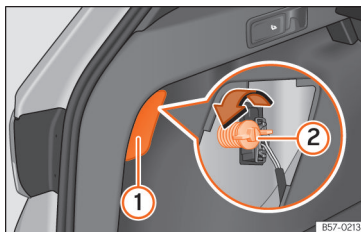

Fig. 114 Boot: access to the bolt securing the tail light unit.
3. Remove the lid, levering it with the flat side of a screwdriver into the recess »» Fig. 114 ①.
5. Unscrew the light securing bolt by hand or using a screwdriver »» Fig. 114 ②.